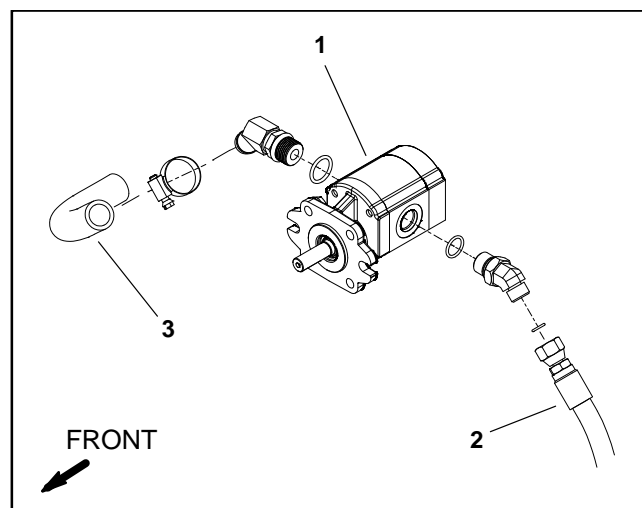

Figure 18
3. With the engine off, clean hose fitting and disconnect the pressure hose from the gear pump (Fig. 18). Install tester with pressure gauges and flow meter in series between the gear pump and the disconnected hose. **Make sure the tester flow control valve is open.**